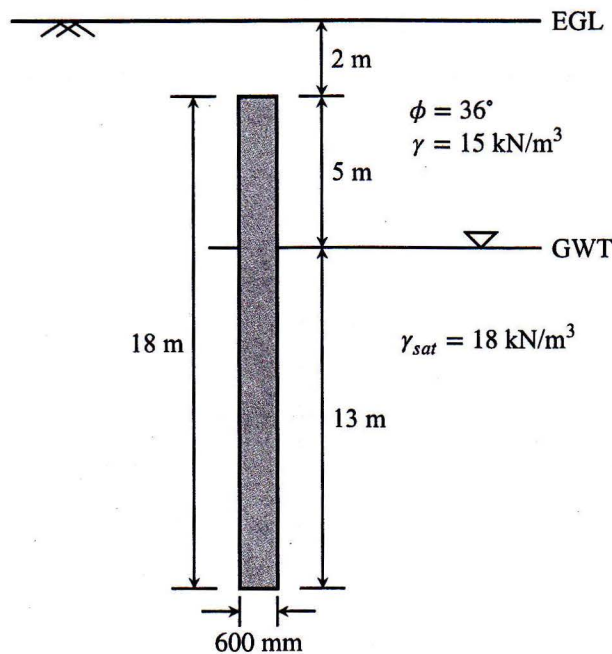

Figure 3
3. (a) What information are required in a soil exploration report? (5)
- (b) An individual cast in situ concrete pile in sand having a diameter (D) of 600 mm is shown in Fig. 3. Calculate the Ultimate Bearing Capacity (Q_u) of the pile. Assume $\delta = 0.8\phi$, and $K = 1 - \sin \phi$. Use Meyerhof's method while estimating the point bearing. (15)